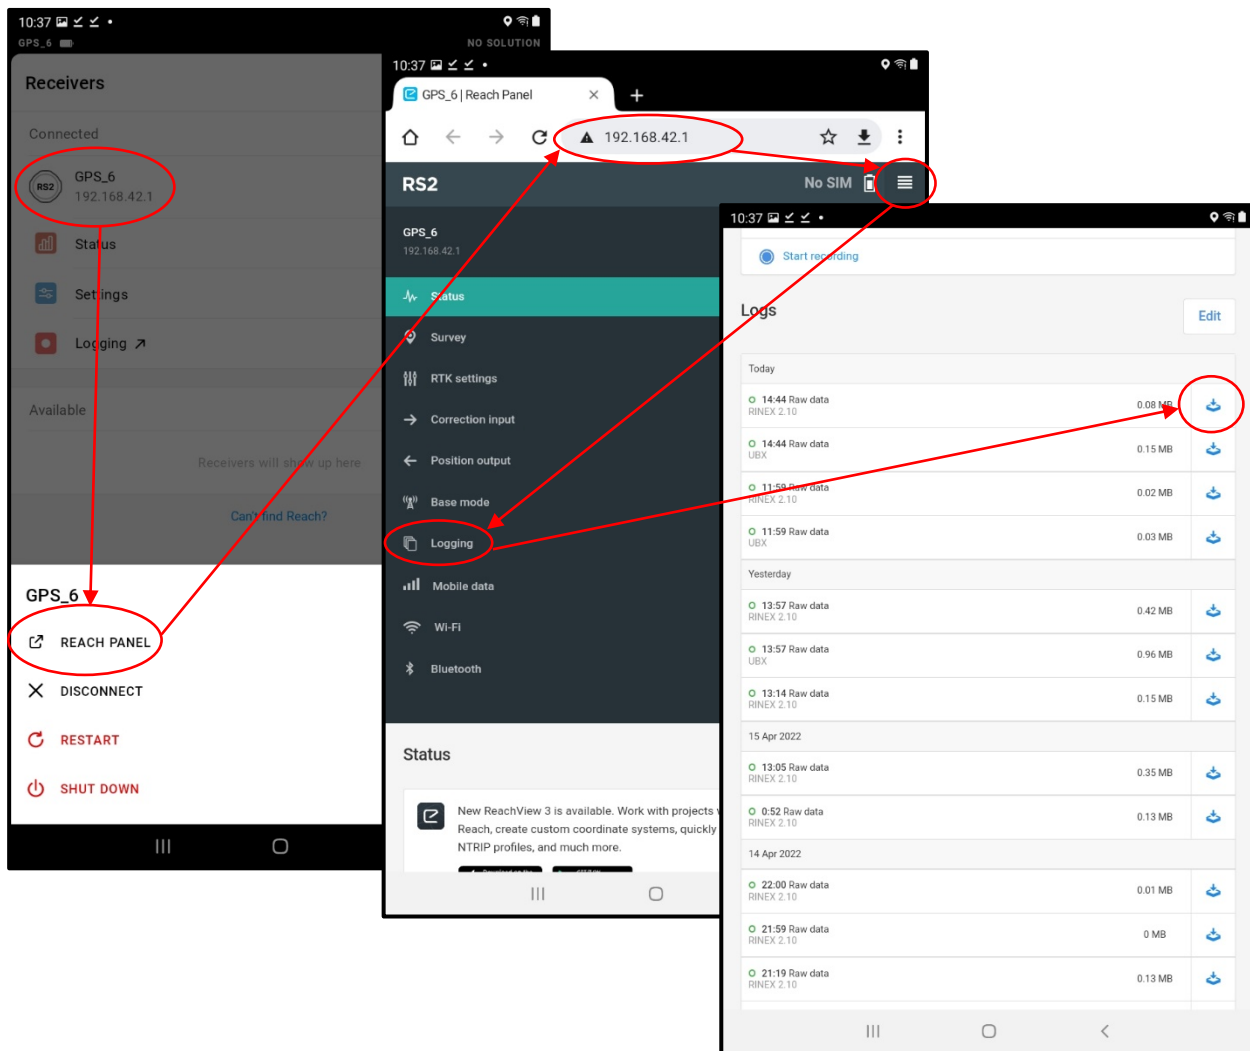

Figure 33. Figure showing Emlid Reach RS2 workflow for beginning a download with red circles and arrows showing the workflow
- f. Select “Reach Panel” at the bottom of the screen (Figure 33)